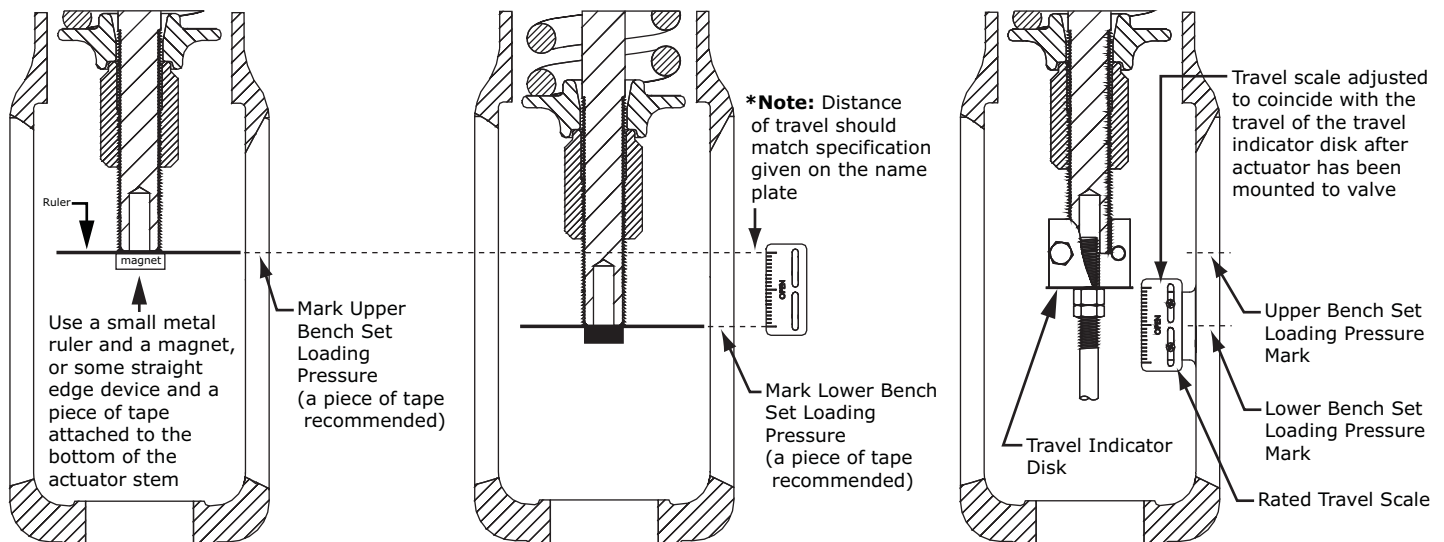

Figure 6 Bench Set Travel Adjustment Diagram
- 7 Decrease the loading pressure to the lower bench set limit, the actuator stem (Key 13) should lower towards the direction of the valve (if a valve were installed). Mark the position of the bottom of the actuator stem using the method shown in Figure 6 or equivalent.